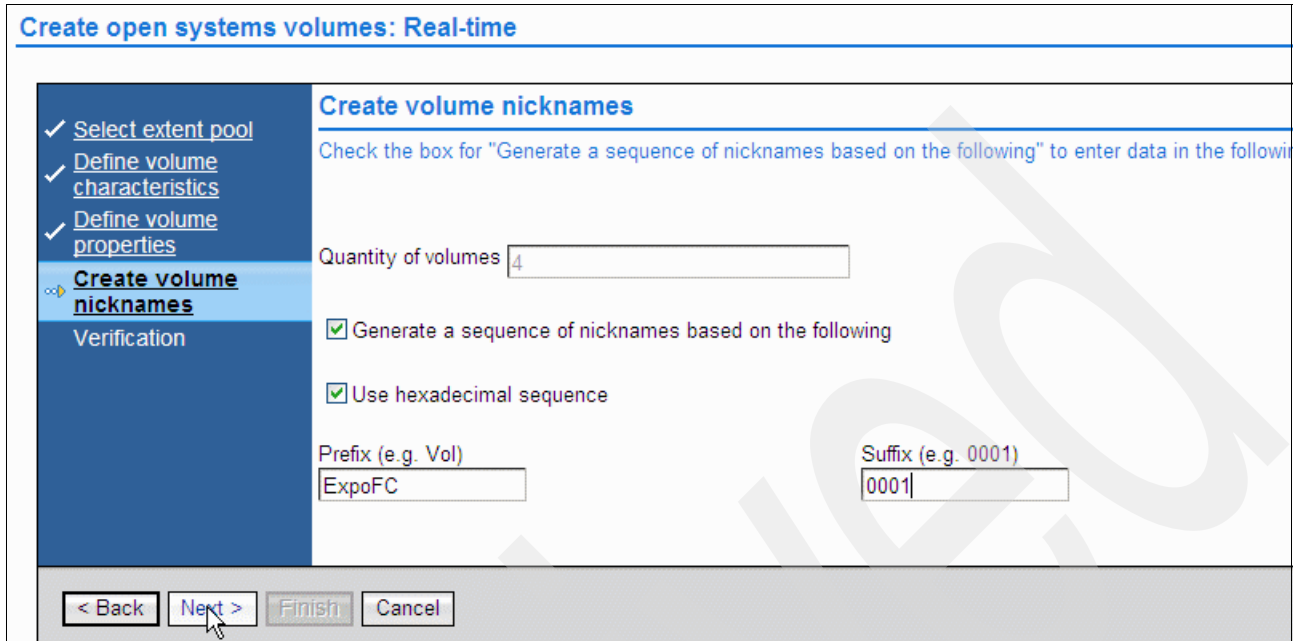

Figure 10-14 Creating volume nicknames
- Define the naming convention to be used for the volumes. We use ExpoFC as the prefix because these LUNs are used for the FlashCopy of the Expo system (see Figure 10-14).